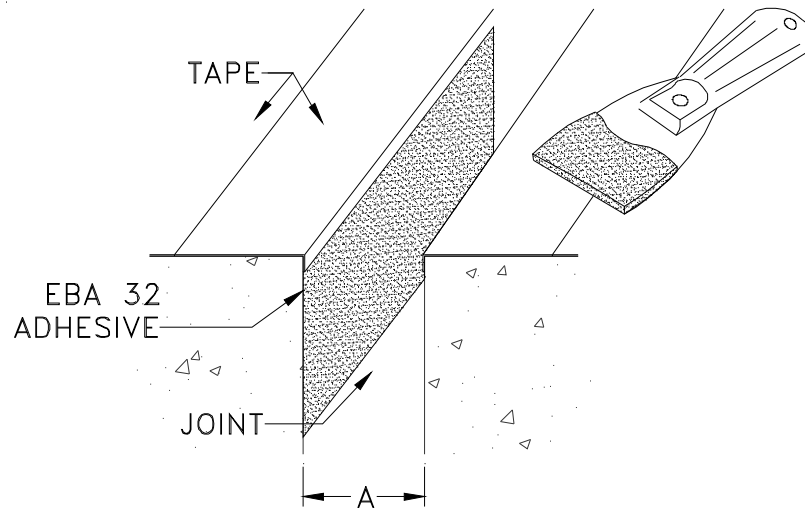

Figure 6
STEP 7. Apply the adhesive to the interface walls using a trowel or putty knife (see Figure 6). Wipe the trowel or putty knife clean with a solvent soaked rag frequently. Do not allow the adhesive to set up on the surface of the trowel or putty knife.